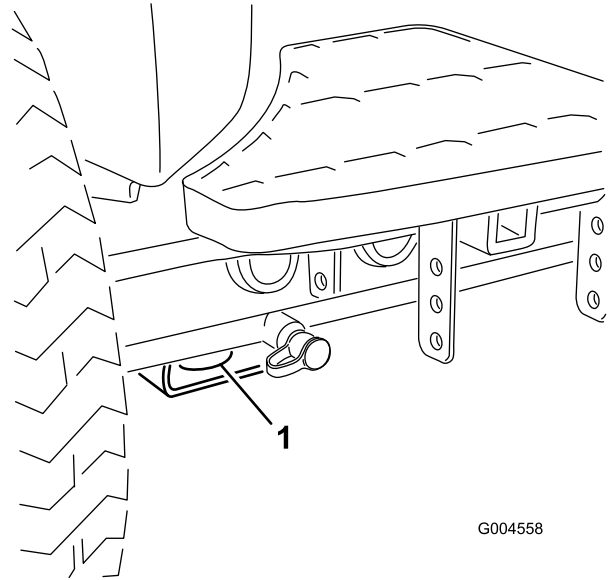

Figure 47
- Front—the hole in the rectangular pad, under the axle tube, inside each front tire (Figure 47).